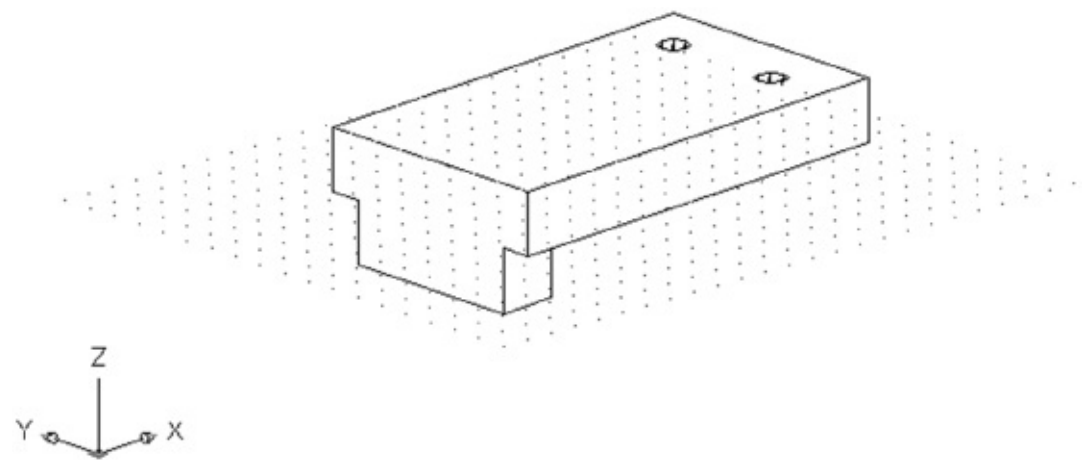

FIGURE 22.7 The bracket so far, with hidden lines removed
5. To view the solid, choose Hidden from the Visual Styles Control in the drawing area. You see a hidden-line view of the solid, as shown in Figure 22.7.